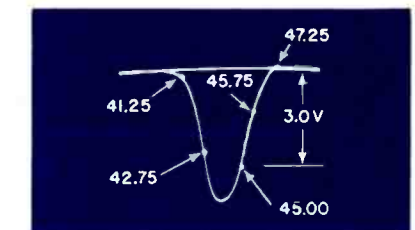

Fig. 12 Overall IF Response
8. Adjust the first IF bottom core (44 Mc), second IF (42.75 Mc), third IF (45 Mc), and converter plate coil to obtain a response similar to Fig. 12.